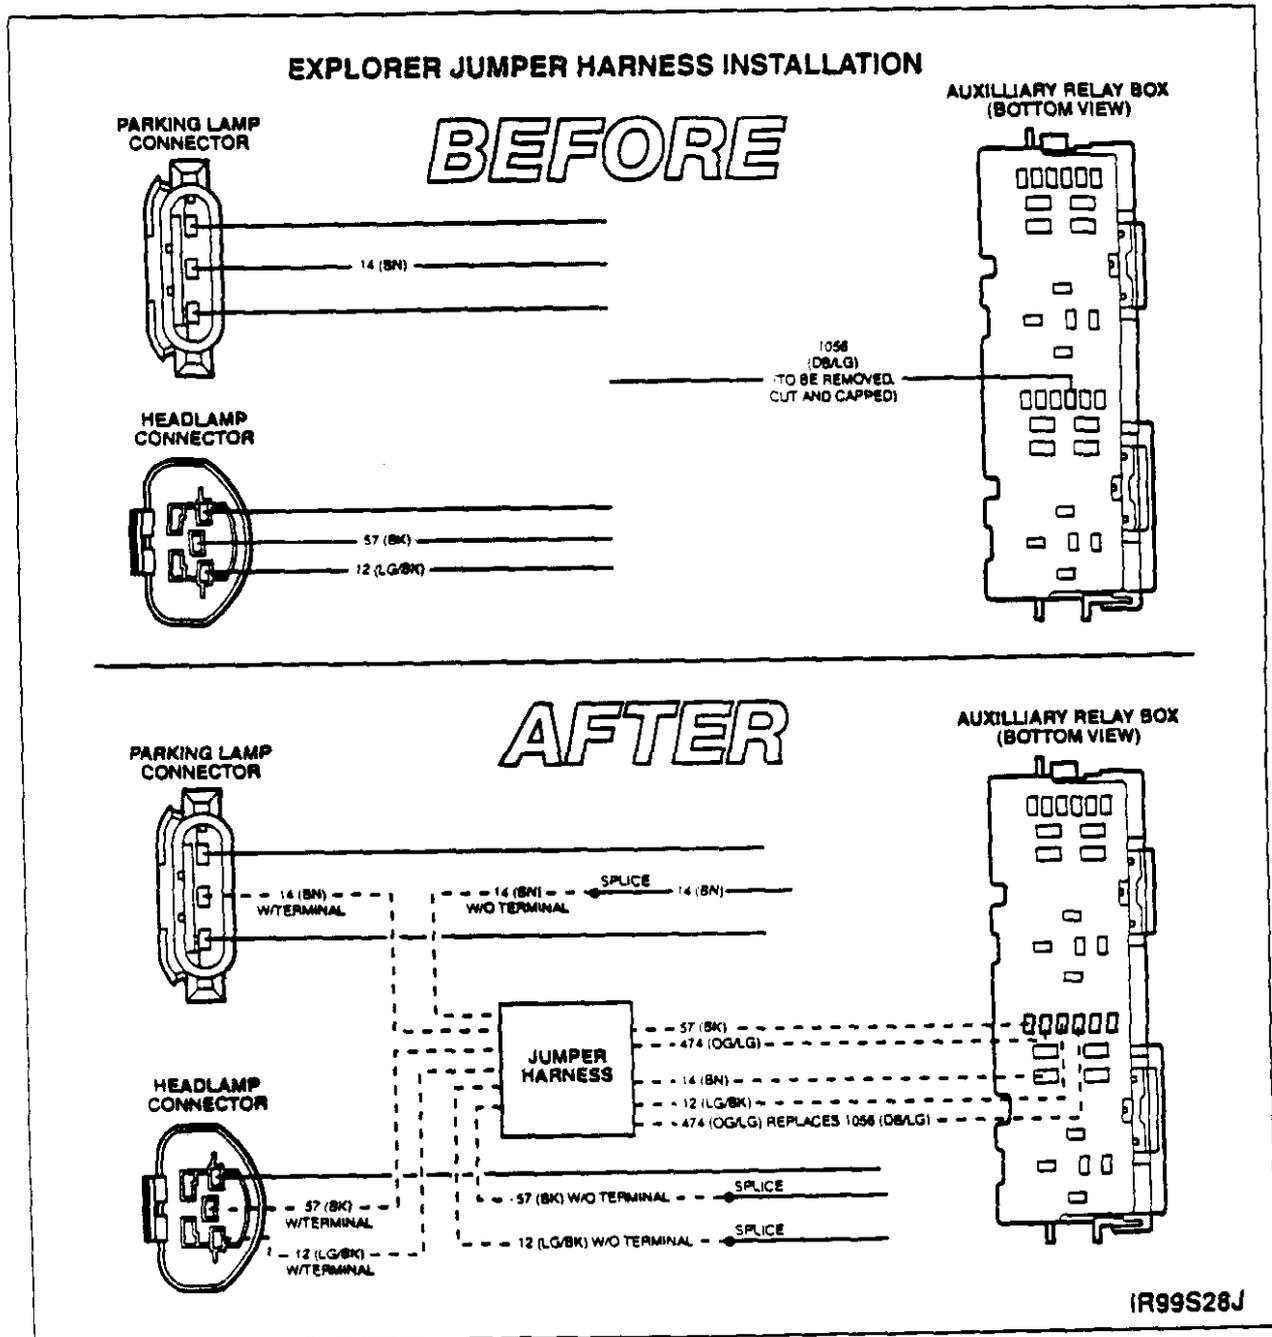

FIGURE 10
1. This diagram is supplied to aid in the identification of components and circuits during the relay jumper harness installation. See Figure 10.